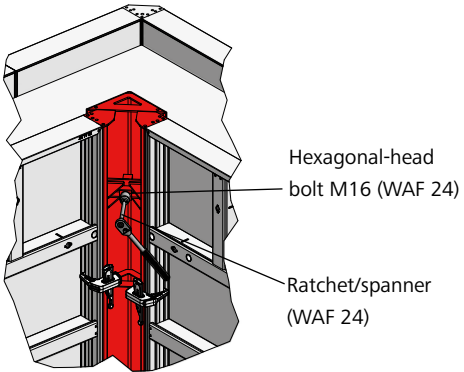

Fig. 30.4
1. Undo all hexagonal-head bolts with a 24 mm ratchet/spanner (Fig. 30.4).